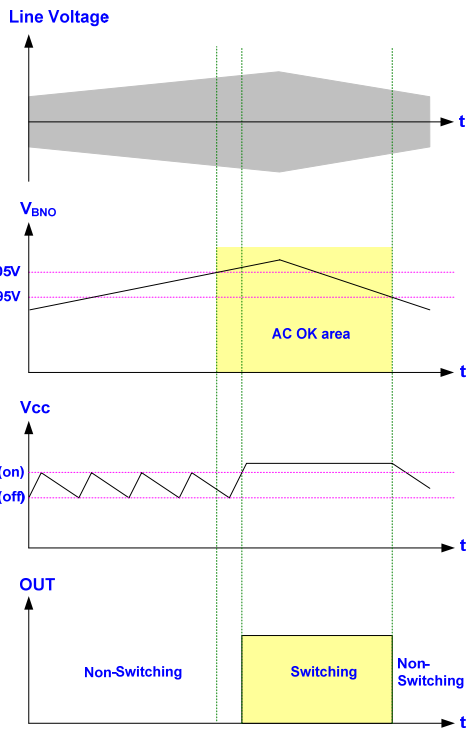
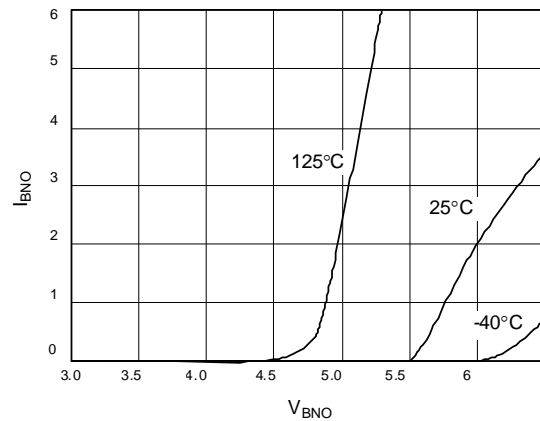

Fig. 19
Fig. 21 V_{BNO} VS. I_{BNO}
The voltage across the BNO pin is proportional to the bulk capacitor voltage, referred as the line voltage. A brownout comparator is implemented to detect the abnormal line condition. As soon as the condition is detected, it will shut down the controller to prevent the damage. Figure 19 shows the operation. When V_{BNO} falls below 0.95V, the gate output will be kept off even Vcc has already achieved UVLO(ON). It therefore makes Vcc hiccup between UVLO(ON) and UVLO(OFF). Unless the line voltage is large enough to pull V_{BNO} larger than 1.05V, the gate output will not start switching even when the next UVLO(ON) is tripped. A hysteresis is implemented to prevent the false trigger during turn-on and turn-off.
In order to protect BNO pin from being damaged during the dividing resistors floating, an internal zener diode is implemented in BNO pin. Fig. 19 shows the sinking capability of the zener diode. To protect BNO pin, the current flowing in BNO pin must be below $1.5\mu A$, as shown in Fig. 21.